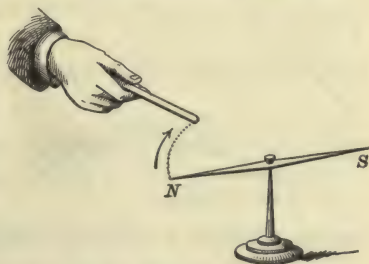

FIG. 98. — A south pole attracts a north pole.
**The influence of magnets upon each other.** — If a magnet is brought near a magnetic needle, the needle turns; that is, motion is produced (Fig. 98). If the north pole of the free magnet is brought toward the south pole of the suspended magnet, the latter moves in such a way that the two poles *N* and *S* are as close together as possible. If the north pole of the free magnet is brought toward the north pole of the suspended magnet, the latter moves in such a way that the two poles *N* and *N* are as far apart as possible. In every case that can be tested, it is found that a north pole repels a north pole, and a south pole repels a south pole; but that a north and a south pole always attract each other.